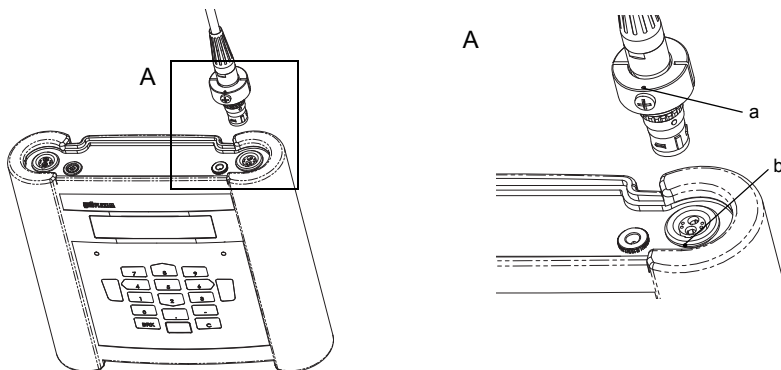

Fig. 7.9: Connection of the transducers (FLUXUS F608\*\*-F2)
- Insert the connector of the transducer cable into the socket of the transmitter. The red point (a) on the connector must align with the red marking (b) on the socket (see Fig. 7.9).